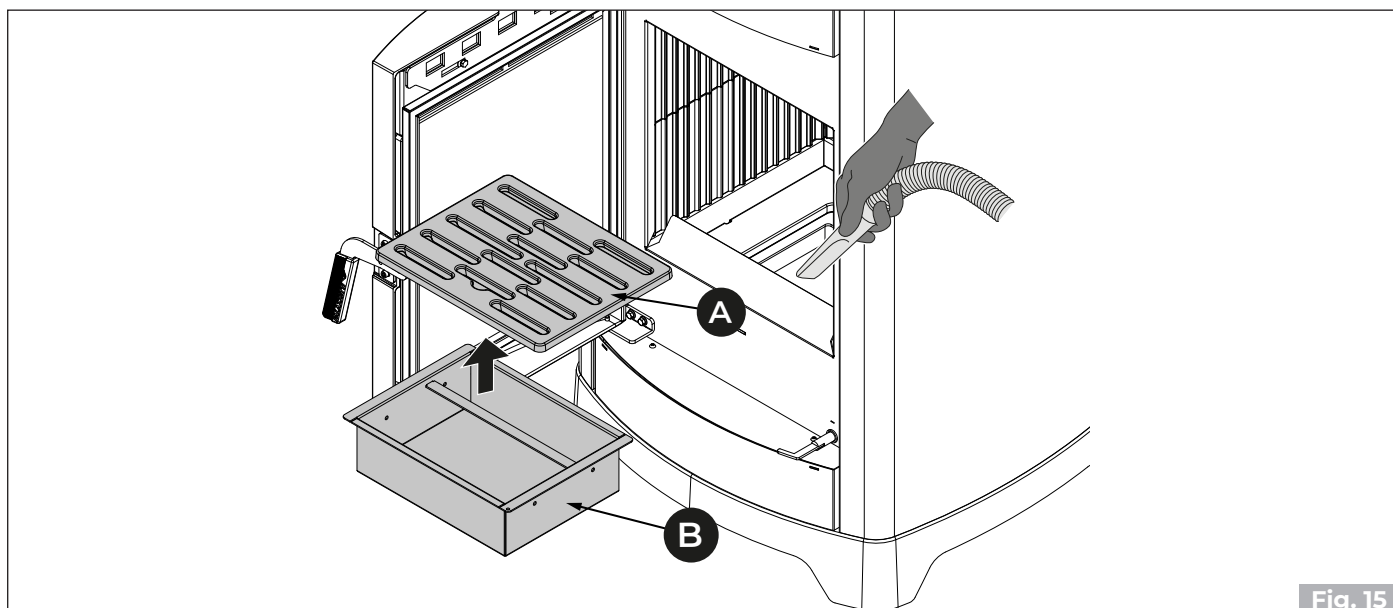

Fig. 15
- 1) Carefully clean the grate (**A**) (**Fig. 15**). Remove it and clean the fire box using a hand brush (not supplied) brushing the combustion residues into the ash drawer.
- 2) Extract the ash drawer (B) from the base and vacuum out any ash deposited in the compartments below (Fig. 15).